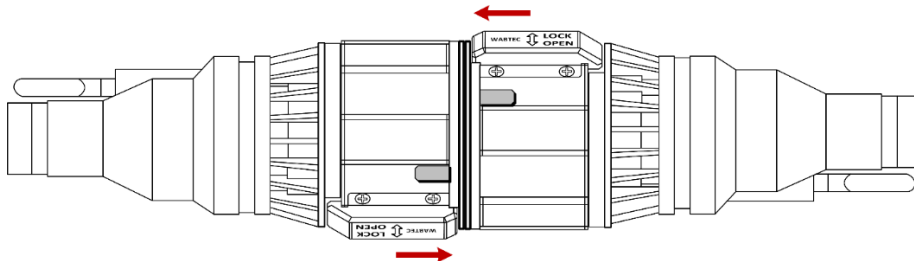

Figure 25: Connectors Mated and in the Open Position
4. Press the Inline Connectors toward one another so they fully mate as depicted in Figure 25.